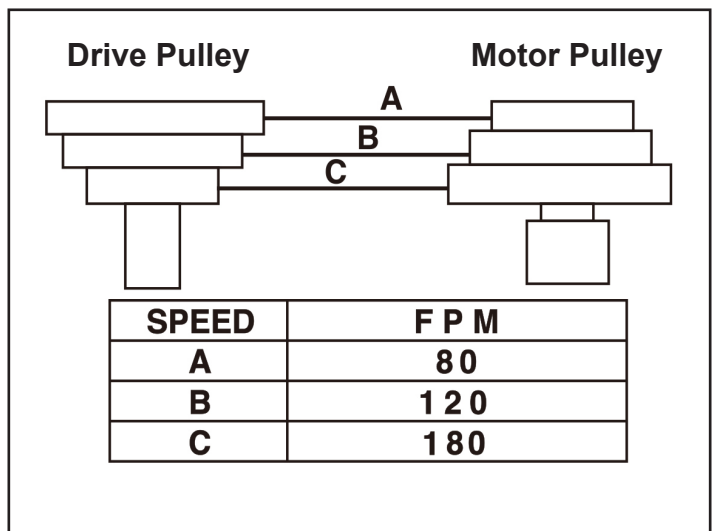

FIGURE 16
Blade speed selection is another important adjustment needed to ensure optimal cutting performance. Similar to correct feed rate above, incorrect blade speed selection can result in poor performance including crooked cuts, tooth stripping, motor stalling and the blade coming off the blade wheels. SEE Figure 16: **Blade Speed Chart**.
**NOTE:** The Speed Change Label shown in Figure 16, page 13, can be found inside the motor cover.